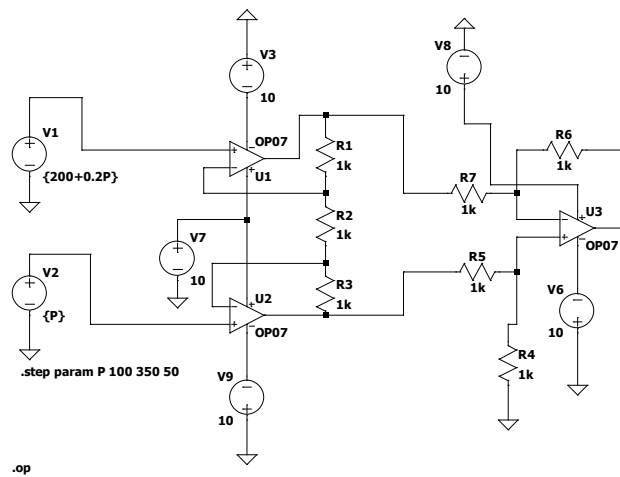

Fig 1.11
4. We use two varying voltage sources V_{i1} and V_{i2} to realize a pressure sensor. This is made possible with the help of .step parameter in LTspice. V_{i1} is the output from the pressure transducer and V_{i2} is used to measure changes in pressure. The gain of the instrumentation amplifier in fig 1.11 is given by,